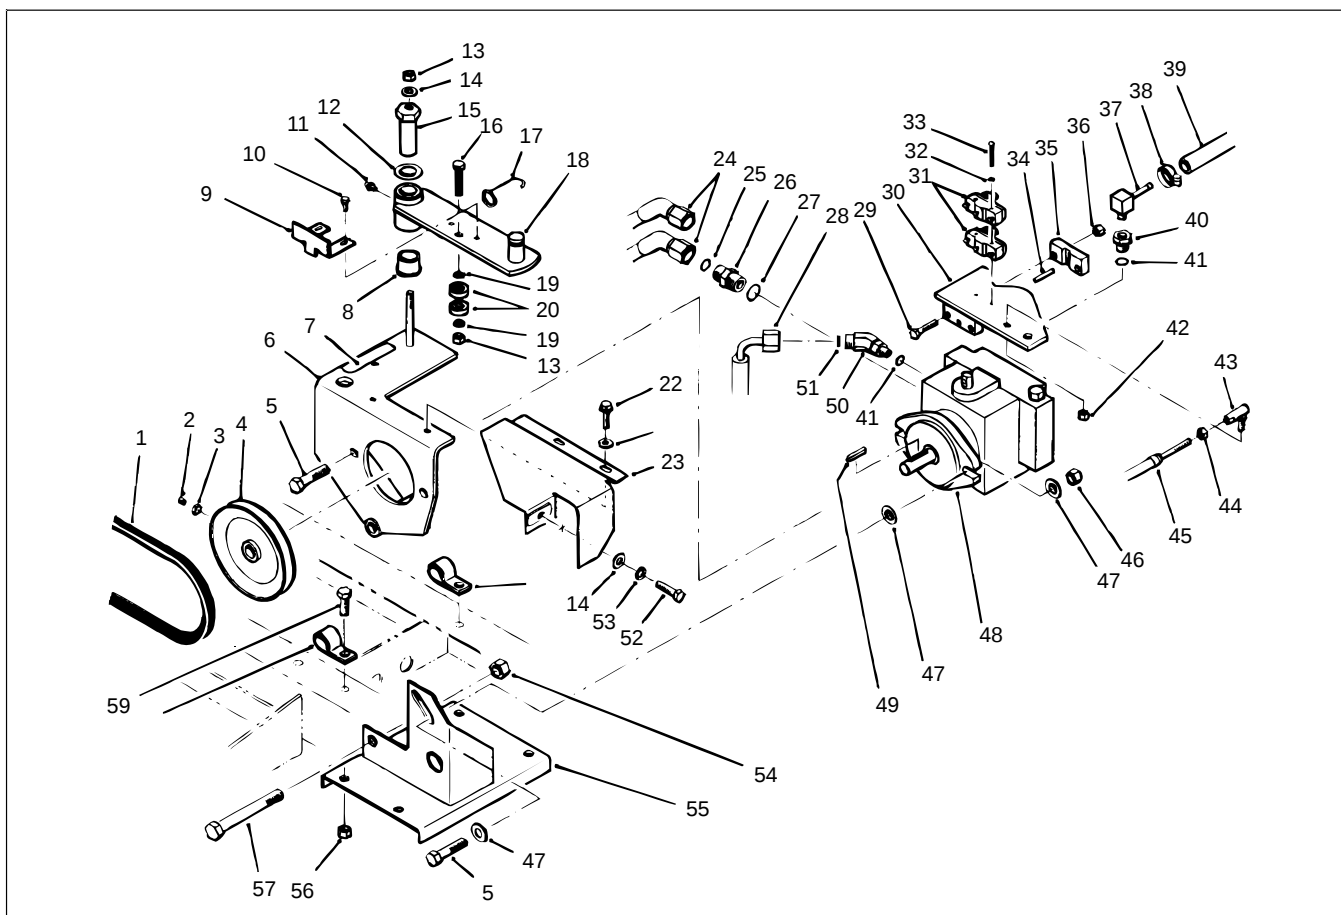

Figure 20
C. Loose three (3) capscrews securing pulley guard bracket (Fig. 20, Item 21) to control panel and pump support.
E. Tighten pivot nut. Tighten three (3) capscrews securing pulley guard bracket.
2. Remove pulley guard bracket (Fig. 20, Item 21).
Hydraulic Pump Removal and Installation (Fig. 20)